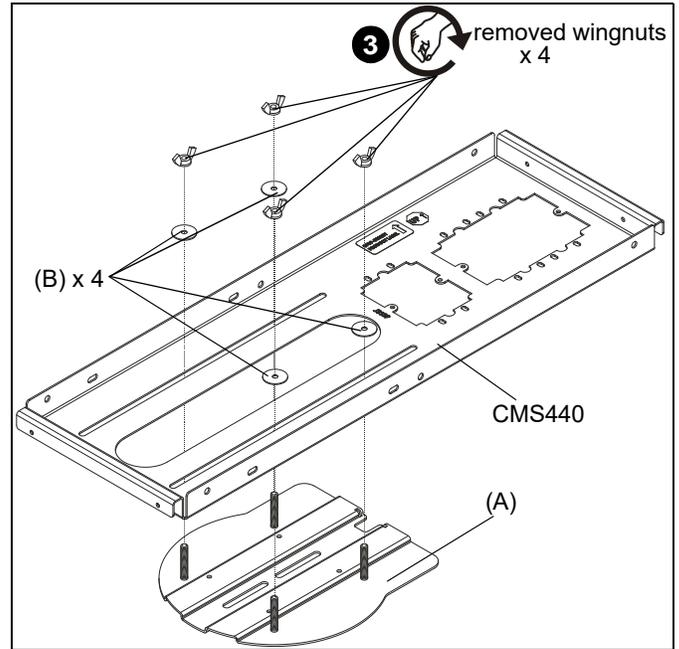

Figure 3
3. Use removed wingnuts and spacers (B) to secure camera plate (A) to CMS440. (See Figure 3)